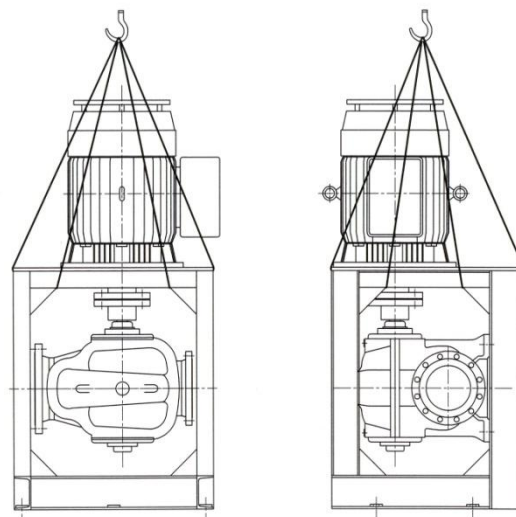

Fig. 1
1. To lift the pump, suspend with cable as shown In Fig. 1, so that loading is even. Please do not use excessive large size cable.